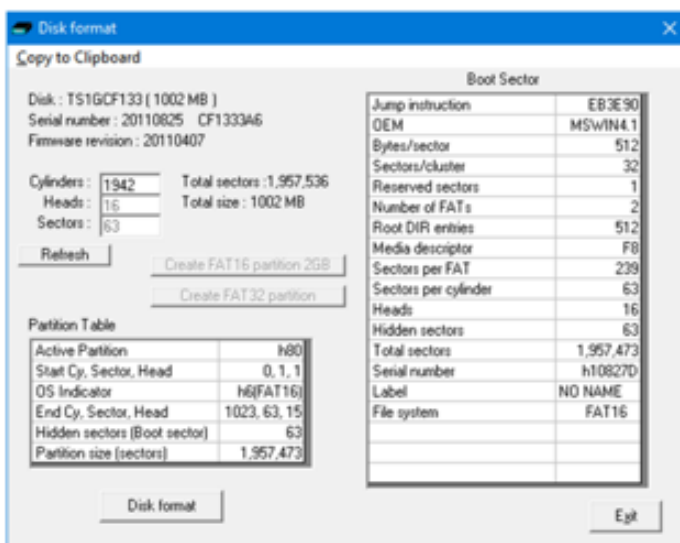

Figure 31: Disk Format
2. Enter the patient name and Recording ID into the "Patient Details" dialog box (Figure 31). This information is saved with the recording setup for download to the recorder in a future recording.
**NOTE:** It is possible to configure the system to use a patient database instead of the simple dialog shown in Figure 31.
To use the Patient Database instead of the simple patient dialog shown in Figure 31, set this option in the PC setup (Section 3.2.2.1).
The Patient's full name (first, middle and last name) and Recording ID will be included in the recorded EEG data files in plain text. If this is not desired and/or to protect personally identifiable patient data when files are shared, key information should be anonymised or otherwise locally encoded. (for example, "Anonymous", as shown in Figure 31).
**NOTE:** If the patient details have not been entered beforehand, the Patient Details window (Figure 31 or Figure 32) will appear first.